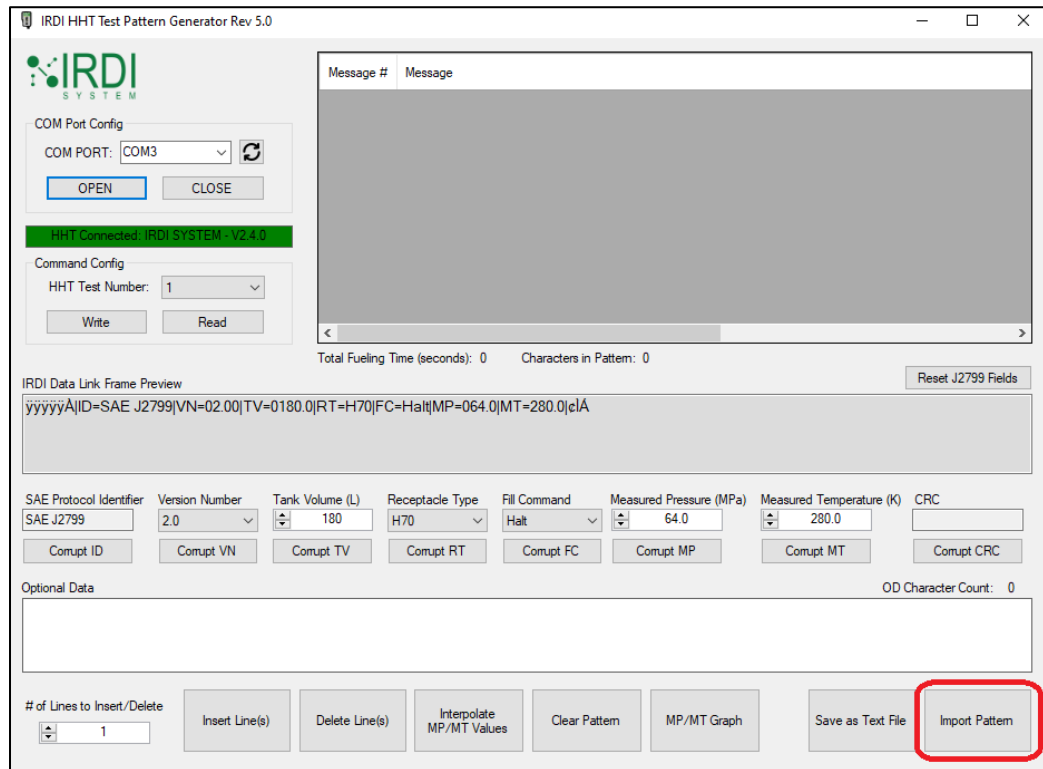

FIGURE 6-5 HHT TEST PATTERN GENERATOR SOFTWARE - IMPORT PATTERN BUTTON
STEP 1	Click on the “Import Pattern” button – see Figure 6-5.